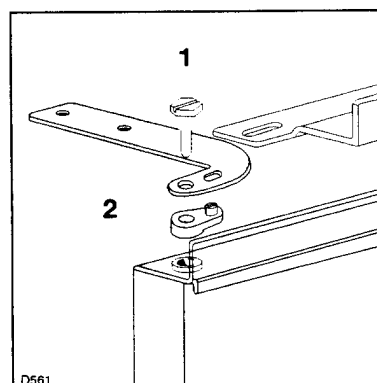
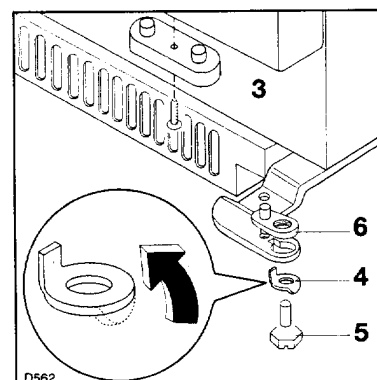
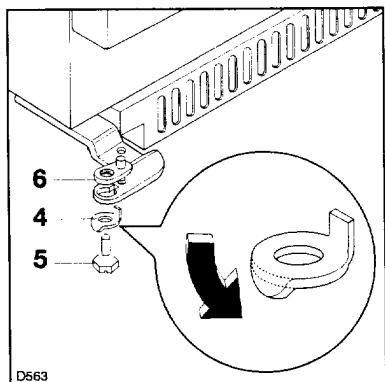

Fig. 2
Fig. 3
Fig. 4
Remove the upper and lower screws (1) and pivots (2) with the safety washer (4) on the left side (Fig. 2). Remove the door stop hinge (3-Fig. 3).
Remove the upper right screw and pivot. Straighten the safety washer (4) of the lower right hinge. Remove the screw (5) and the pivot (6) (Fig. 3). For safety reasons bend the washer located under the left hinge (Fig. 4), by using a tool (for ex. a screwdriver). Remove the right door stop hinge (3-Fig. 3).